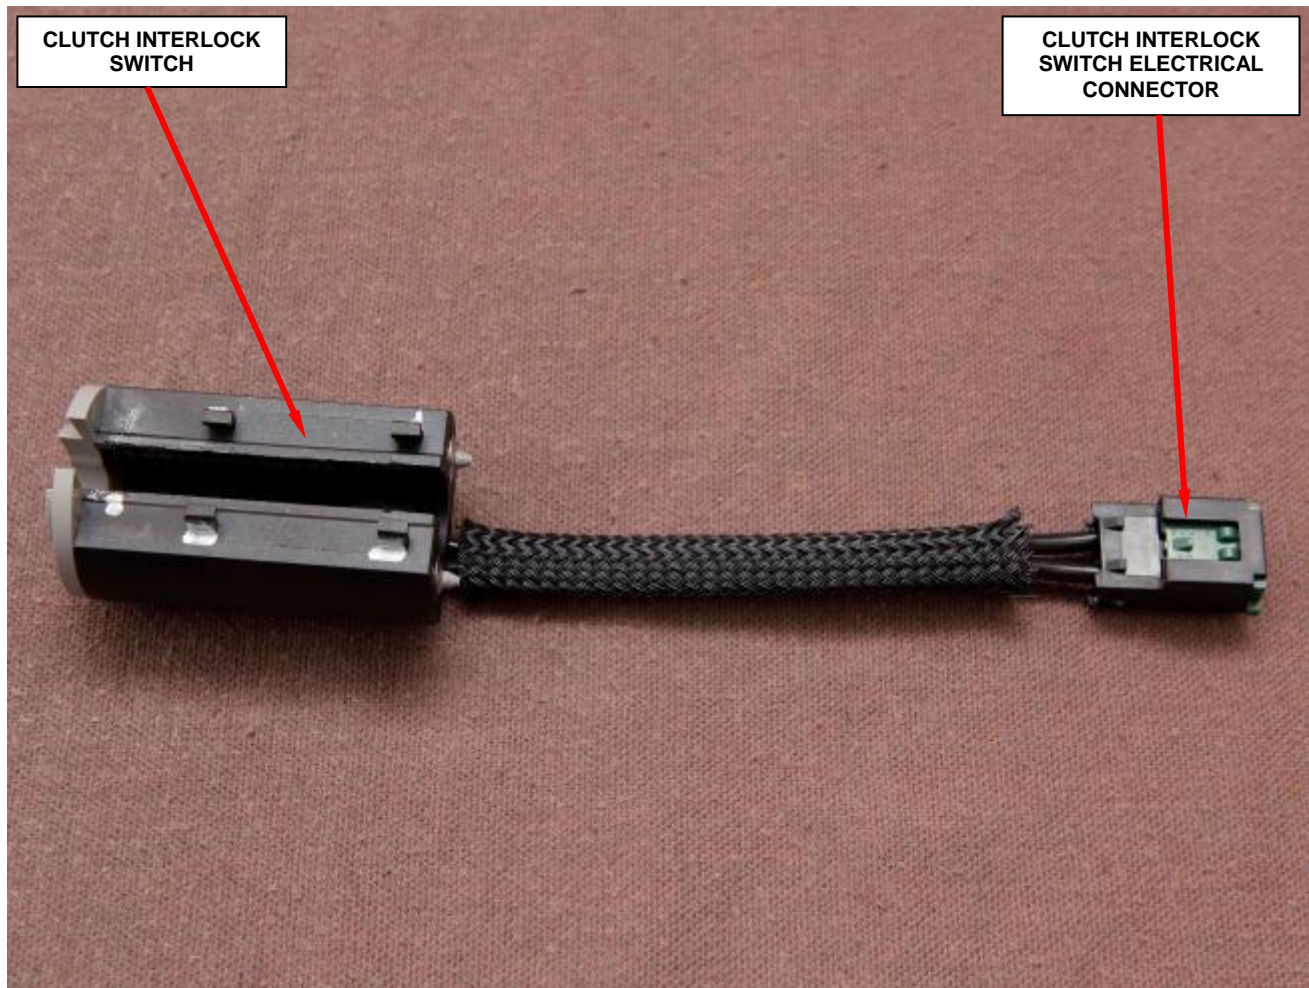

Figure 11 – Clutch Interlock Switch Electrical Connector
5. Disconnect the clutch interlock switch electrical connector (Figure 11).
12. Connect the clutch interlock switch electrical connector to the body wire harness electrical connector (Figure 11).